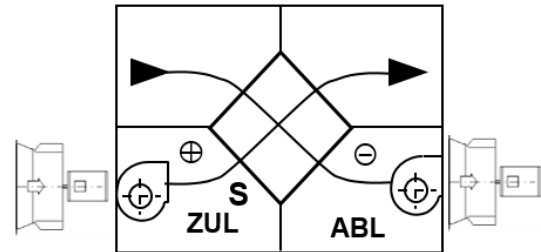
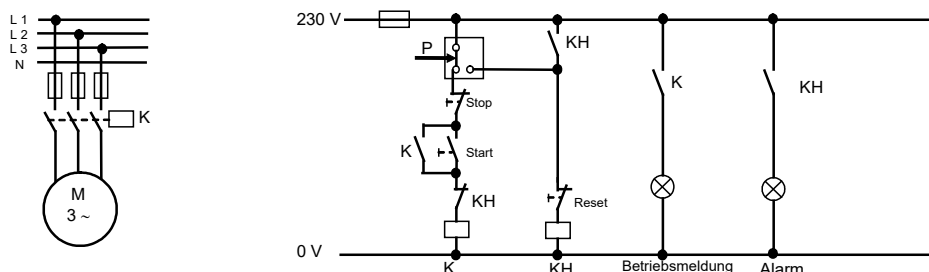

Figure 195: supply air pressing, exhaust air sucking;
Figure 198: Electrical connection scheme
- Depending on the fan arrangement, one or two differential pressure switches must be provided, see **Figure 195 to Figure 198**.
The setting of the differential pressure switch must be done on site, based on the actual pressure situation on site. The actual differential pressures must be measured at the commissioning with the target volume flows – measuring points depending on the fan arrangement can be found in **Figure 195 to Figure 198**. From the beginning until reaching the target volume flow, the maximum admissible differential pressure according to the technical data must not be exceeded. Based on these measured values reserves for, for example, filter pressures losses or other additional pressure losses must be added. This calculated pressure must be adjusted at the differential pressure switch as trigger value.
If TRANE supplies the differential pressure switch, then they are factory mounted. The setting, as described above, must be executed by the customer on site at commissioning. The correct connection of the measuring hoses, according to **Figure 195 to Figure 198**, must be ensured before commissioning.